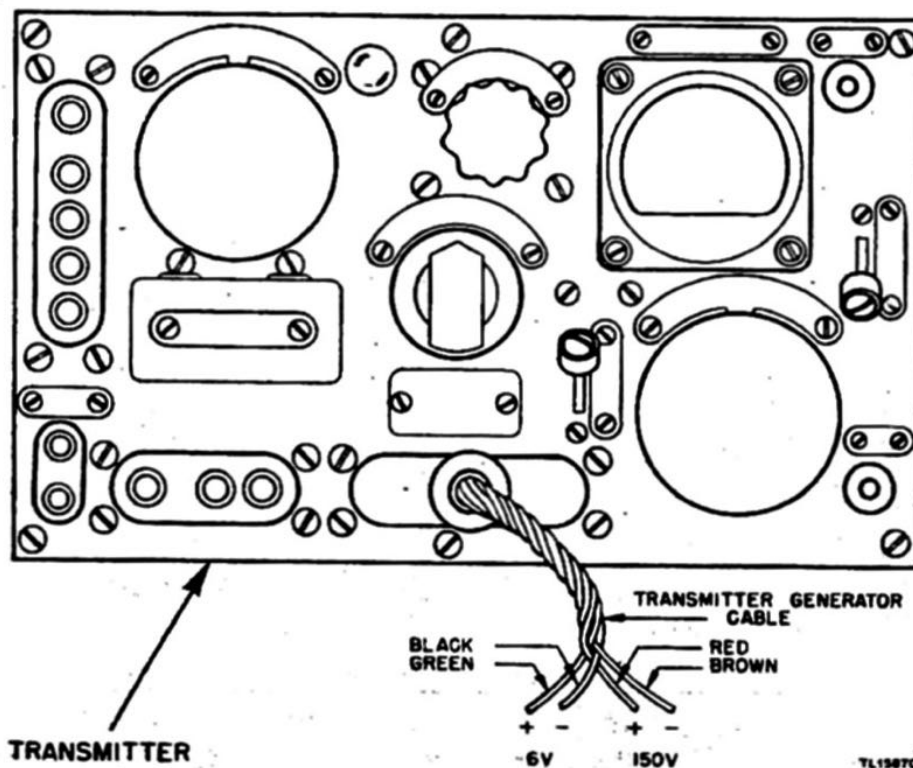

Figure 19. Japanese Radio Set Model 94 Mark 5 Wireless Set, Mark 32 Type Transmitter, cording for battery pack power supply.
(3) To install the transmitter with a battery pack, use the generator cable modified as shown in figure 19. The battery pack is connected to the generator cable as follows: